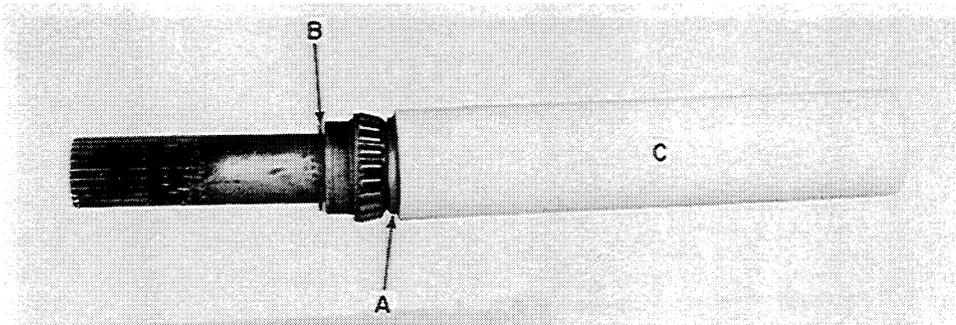

FIGURE 24
3. Use the pipe to push against the tapered spacer, A, Figure 24, to preload the snap ring, B.